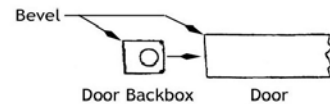

Figure 1B. Beveled edge of door backbox.
- Orient bevel of door backbox to match bevel of door as shown in Figure 1B.